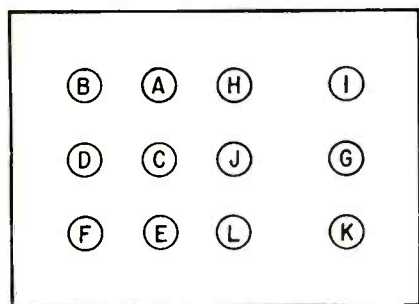

Fig. 5—Fig. 4 controls identified for ABC step-by-step convergence.
Fig. 5 shows the complete circuit. What has not been shown before is Q1 and Q2, the audio stages at the front end; Q3, the phase inverter, followed by Q4 and Q5, back-to-back emitter followers (complementary) that feed audio to the mixer stage. Overall feedback is taken from the appropriate side of the output (the side that couples to Q14) back to the base of Q2. The values are chosen in just the same way as for overall feedback in any other type of audio amplifier circuit.
The terminology is rather technical, so forget it. Instead, dynamic adjustments will be explained by referring to Fig. 5, with a step-by-step identification. Thus you can follow an ABC procedure for minimum confusion. It also helps to work with two colors at a time, instead of three, whenever you can. Start like this:
3. Apply a crosshatch pattern, and adjust control A (Fig. 5) to con-
4. Adjust control B (Fig. 5) to improve the layover of the blue and red lines up and down center screen, as in Fig. 7. Touch up the blue lateral corrector, if necessary. You may need to touch up control A slightly, also.
5. Adjust control C (Fig. 5) to converge the green and blue lines up and down center screen (Fig. 8). As before, the blue line is our reference because its tilt is always the same. And don't worry—now—if you can't quite make it—just bring the green in as close as possible.
6. Next, adjust control D (Fig. 5) to improve the layover of the blue and green lines up and down center screen (Fig. 9). You might need to touch up the blue lateral corrector and control C slightly, for best layover.
and C (Fig. 5) must be re-adjusted slightly to get satisfactory crossovers. The rule is to make the crossovers correct with *both* controls A and C, not changing either control any more than you have to.
8. Adjust control E (Fig. 5) to make the crossovers at top and bottom as accurate as possible. Then, adjust control F. (Fig. 5) to improve the crossovers. Work back and forth between E and F for best convergence of red and blue.